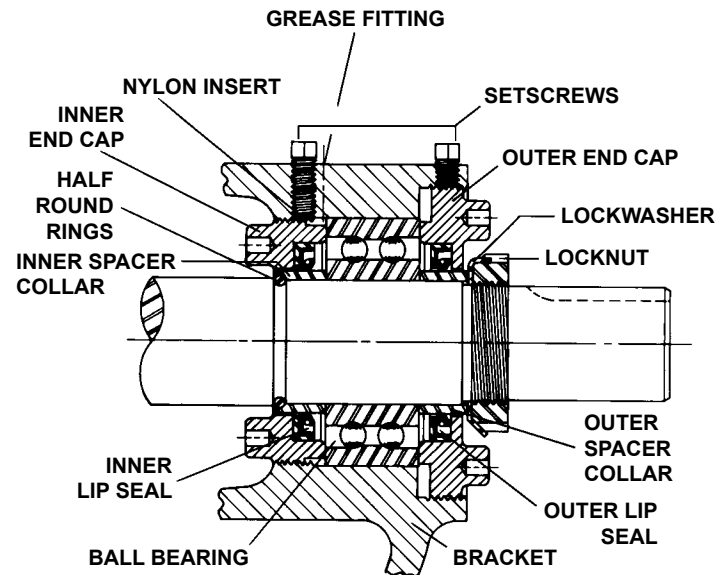

FIGURE 6
8. Loosen the setscrews. Two on G, H and HL size pumps, four on all other sizes. With a spanner wrench, remove both end caps with lip seals. Remove the ball bearing and spacer collars. **Refer to Figure 6.**
Place pair of half round rings on the shaft and slide the inner bearing spacer collar over the half round rings to lock them in place. There is no pair of half round rings on G, H and HL size pumps. **Refer to Figure 6, page 5.**
8. Press the lip seal, the lip facing the end of the shaft, in the inner end cap and insert the end cap through the shaft end of the bracket. Turn the end cap clockwise, looking at the shaft end, until it engages the threads. The end cap spanner wrench holes must be facing the rotor. Turn the end cap with a spanner wrench until it projects slightly from the opening on the side of the bracket. The end cap must not be turned so far that the lip seal drops off the end of the spacer collar on the shaft or end cap becomes disengaged from the threads. **Refer to Figure 6, page 5.**
10. Press the lip seal, the lip facing the end of the shaft, in the outer end cap and insert the end cap in the bracket. Turn the end cap in the bracket until it is tight against the bearing. **Refer to Figure 6, page 5.**
7. Loosen the setscrews. Two on G, H and HL size pumps, four for all other sizes. With a spanner wrench, remove both end caps and lip seals. Remove the ball bearing and spacer collars. **Refer to Figure 6, page 5.**